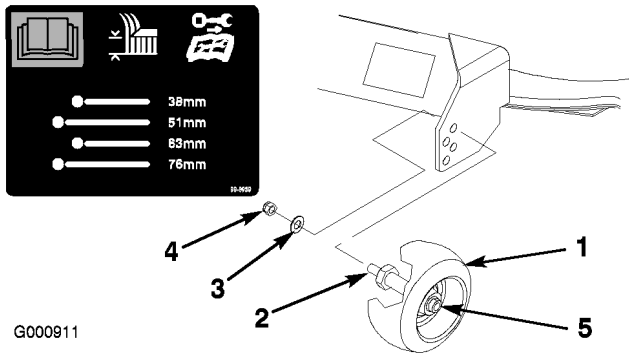

Figure 14
- A. After adjusting the height-of-cut, remove the nut and washer while holding the stud with a wrench (Figure 14).
Note: Do not remove the wheel nut and washer (Figure 14).
B. Select a hole so that the gage wheel is positioned to the nearest corresponding height-of-cut desired (Figure 14).
3. Install the stud nut and washer (Figure 14).